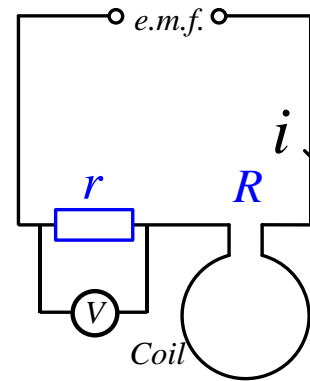

Figure 12: Coil and Resistor Circuit
Consider the circuit as shown in *Figure 12*, V_r is the potential difference (p.d.) across the resistor (r), i is the current through the coil, and R is the resistance of the coil. According to Kirchhoff loop rule reads:
4. *Connect* the resistor with both plugs in the coil wand. This completes the series circuit of the resistor and coil as shown in the *Figure 12*.
9. Calculate the total energy lost using equation (18).